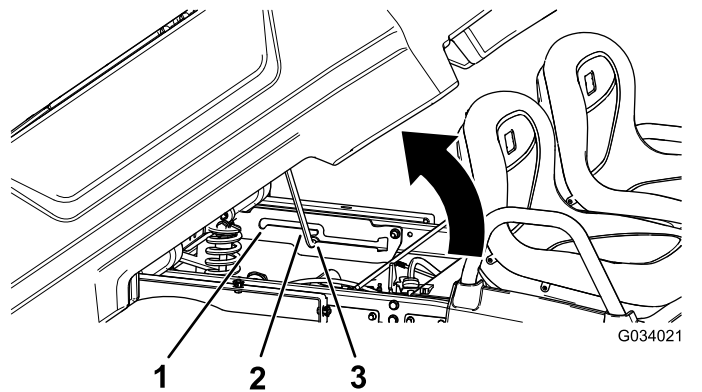

Figure 20
2. Pull the prop rod into the dump position detent slot to secure the bed for dumping (Figure 20).
2. Pull prop rod into the service position detent slot to secure the bed for maintenance (Figure 20).
2. Pull the prop rod out of the detent slot (Figure 20).